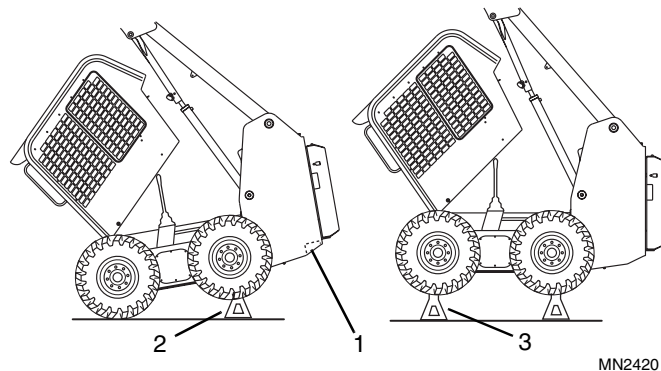

Figure 6-16 Jack Stand Placement
2. Raise the rear of the vehicle with a floor jack. DO NOT place the jack under the hydraulic reservoir or the fuel tank. Place the jack only under the rear crossmember (Fig. 6-16, 1).
IMPORTANT: To prevent personal injury, be certain that the floor jack, jack stands (Fig. 6-16, 2 & 3) or support blocks used are stable and strong enough to support the weight of the vehicle.
3. Place jack stands (Fig. 6-16, 2) under the rear left and right frame of the vehicle. If jack stands are not available, support blocks may be used.
4. Lower the rear of the vehicle down onto the jack stands (Fig. 6-16, 2) or support blocks.
5. Raise the front of the vehicle with a floor jack and place jack stands (Fig. 6-16, 3) under the front of each chain case. If jack stands are not available, support blocks may be used under the chain cases.
6. Lower the front of the vehicle onto the jack stands (Fig. 6-16, 3) or support blocks.